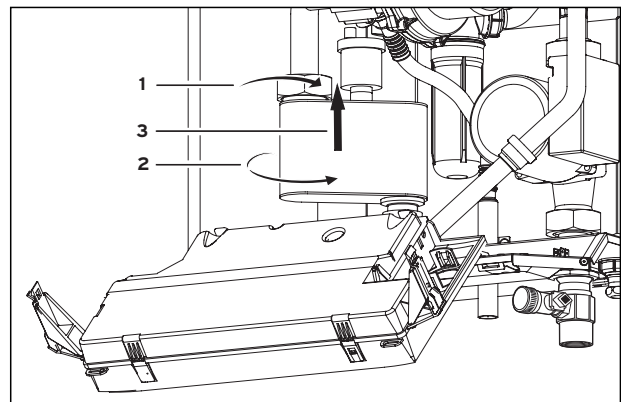

Fig. 7.6 Cleaning the air separator tube
- remove the air separator tube as shown in fig. 7.6 and rinse it with hot water.